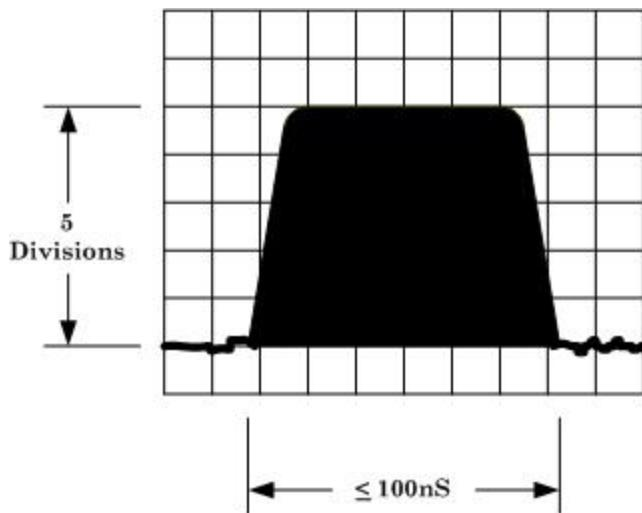

Figure 10. Pulse modulated display.
The next several tests require that you adjust the oscilloscope as necessary to obtain a centered 5 division pulse as shown in figure 10.
- (4) Reset the pulse generator then set to produce a 1 MHz pulse train with a width of 100 ns, **VHI** of 5 and **VLO** of 0, and turn the output on.
- (5) Press oscilloscope controls as listed in (a) through (h) below:
- (6) Adjust oscilloscope as required for centered five division pulse as in figure 10.